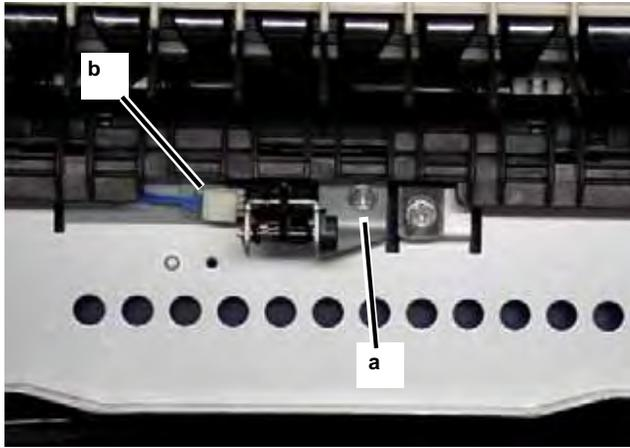

Figure 3 Removing Screw
4. Remove the Exit Sensor Plate Assembly (Figure 3).
- a. Remove the Screw (1).